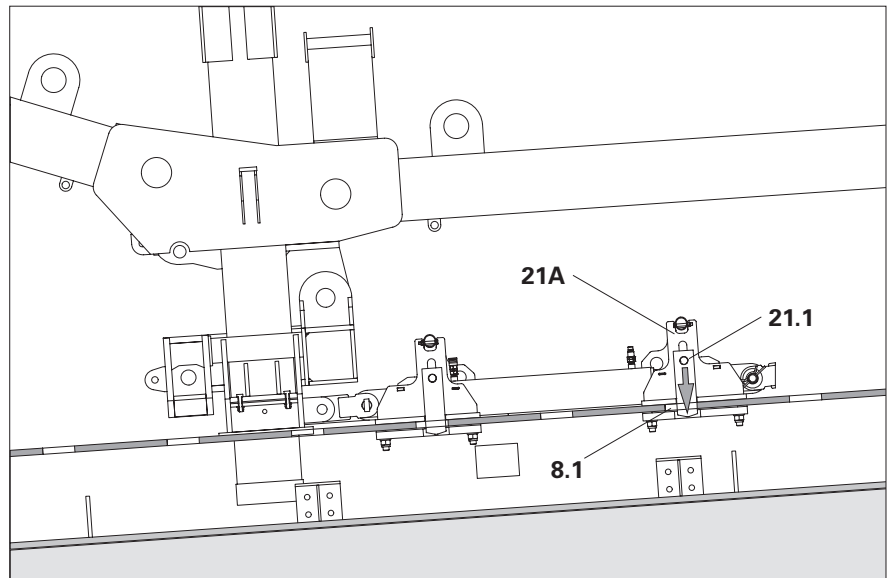

Fig. C1.07
- The locking plate (21.1) of the drive catch head (21A) drops into the next section (8.1) of the rail. (Fig. C1.07)